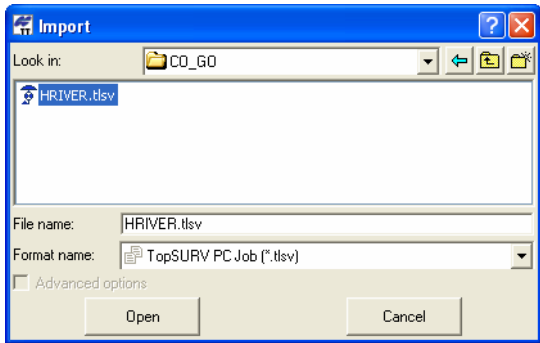

Figure 3-26. Import TopSURV PC Job
4. Click **Open** to import the file (Figure 3-26 on page 3-27).